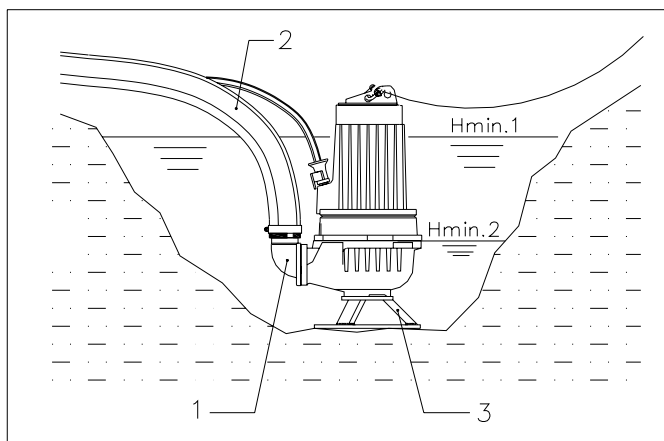

Fig. 6.9
- Check that the motor is adequately cooled. The motorhousing should be at least 2/3 submerged for continuous operation at full load (see Hmin.1 Fig. 6.9).
For interrupted level controlled operation, less cooling is required. We recommend not to run the pump with the water level below the top of the volute in order to avoid air being drawn in (see Hmin.2 Fig. 6.9). Air in the discharge pipes might impair performance.